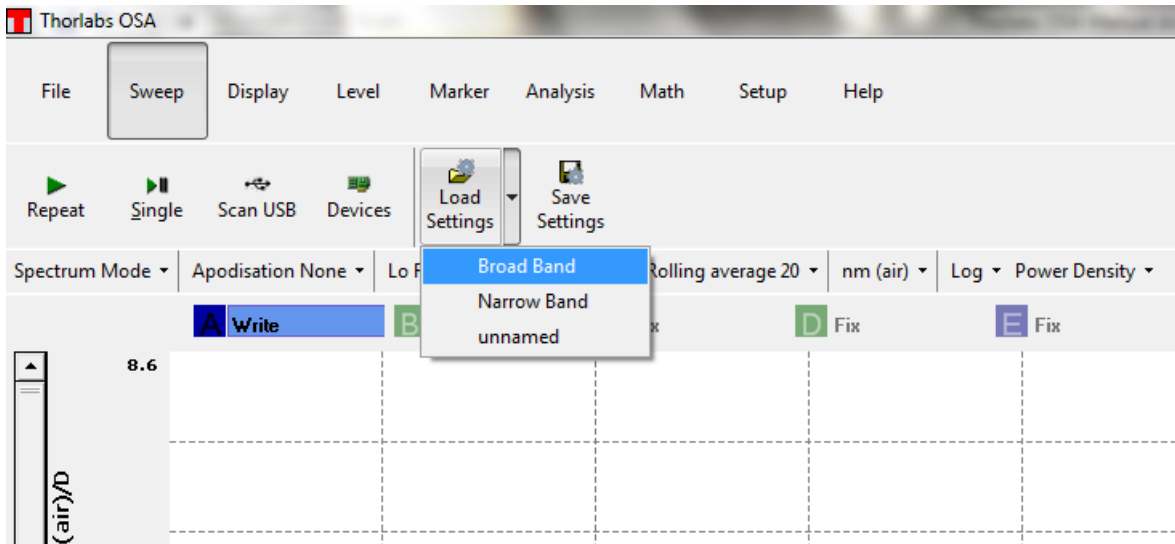

Figure 57 “Load Settings” Button, Allowing Saved Parameter Settings to be Quickly Loaded and Applied to Setups
2. Clicking on the “Load Settings” button will bring up the “Load Acquisition Settings” dialog (see Figure 57). Here you have the possibility to carefully inspect the settings behind a saved name before loading the settings. It is also possible to rename or delete a stored parameter setting from the menu that is displayed when right clicking on any element on the list.